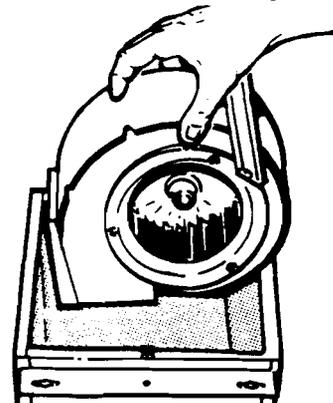

Figure 13
- d.) Lift out blower and line up blower discharge with vertical opening. See Figure 13. Do not grasp blower by blower wheel, as wheel may be damaged.